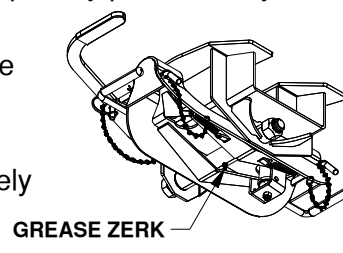

FIGURE F1: Underside view of Coupler Head
- Grease the saddle through the grease zerk approximately every six months with multi-purpose grease. this allows the coupler to pivot freely, see figure F1.